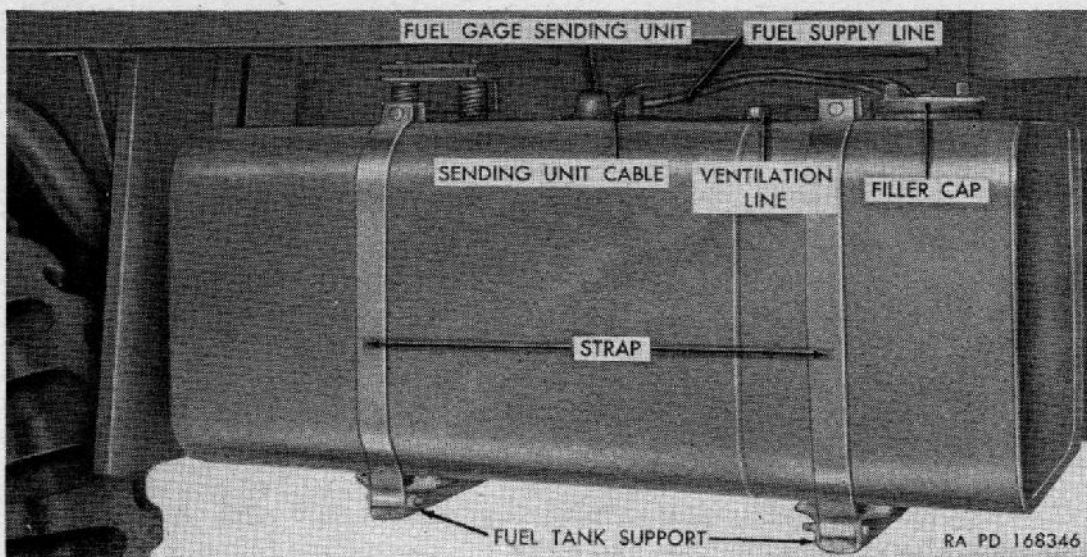

Figure 62. Fuel tank lines.
d. **REMOVAL.** Drain fuel tank (*b* above). Loosen nuts at bottom end of holding straps. Disconnect fuel-gage-sending-unit cable, fuel supply line, and ventilation line from top of fuel tank (fig. 62). Remove bolts at top of holding straps, swing holding straps down, and remove tank.
e. **INSTALLATION.** Position fuel tank on supports. Place holding straps in position and secure with bolts and safety nuts at top, one in each strap. Connect fuel-gage-sending unit cable, main fuel line, and ventilation line at top of fuel tank (fig. 62). Tighten safety nuts at bottom end of holding straps.
(fig. 62)